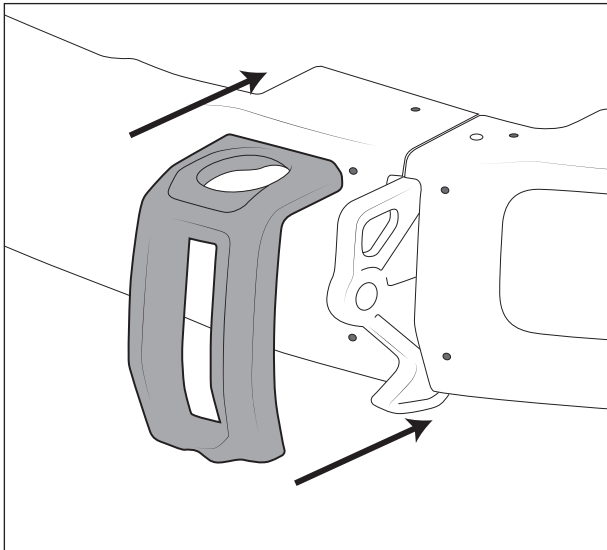

Figure 33
1. Install one side tow loop bezel with M6 x 20 bolts and washers (fig. 33). Hand tighten.